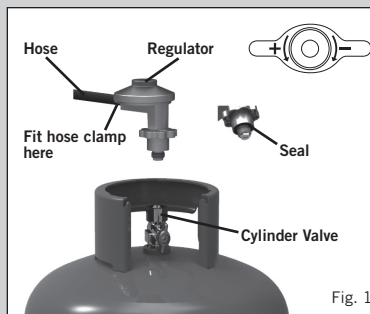

Fig. 1
- The hose and seal on the regulator must be checked for wear or damage before every use and before connecting to the gas cylinder (see Fig.1).
- Carry out this check each time you fit the appliance to a gas cylinder (see fig. 1).